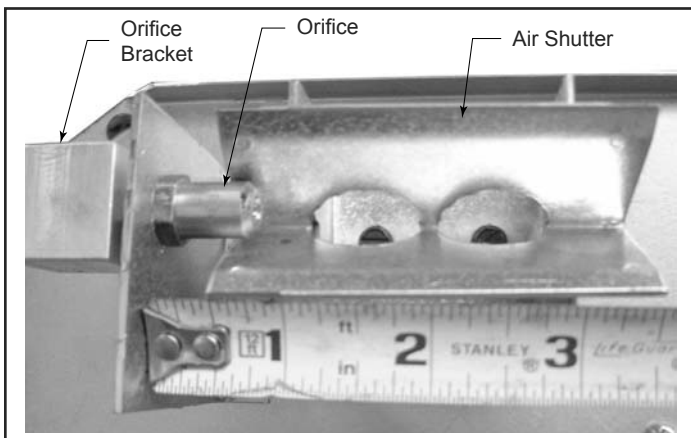

Figure 84 - The air shutter setting is 1/2" (13 mm) from the orifice bracket to the edge of the air shutter.
- The air shutter is factory set according to Table 3 and should not need adjustment. The air shutter opening may be verified by measuring as shown in Figure 84.
- Convert the control box by using a small flat head screwdriver. Lift the conversion cap from the control box and replace with new one marked LP. Be sure to place correctly. Figure 84